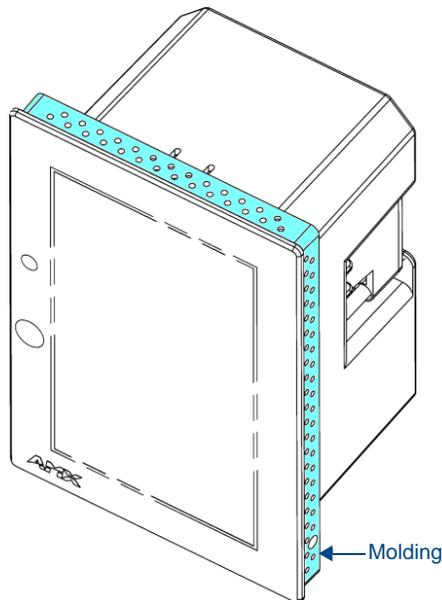

FIG. 47 MXD-430 Molding (highlighted in blue)
1. The MXD-430 has three rows of ventilation holes along the molding (FIG. 47):